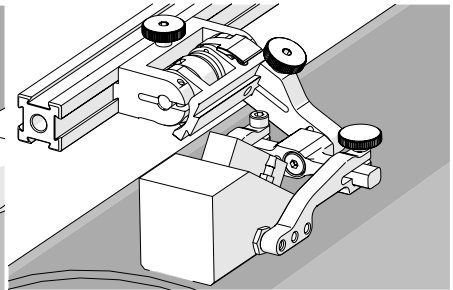

Fig. 198 - Spring loaded scan position
4. Gently lower probe holder and wedge to the scanning surface (Fig. 198).